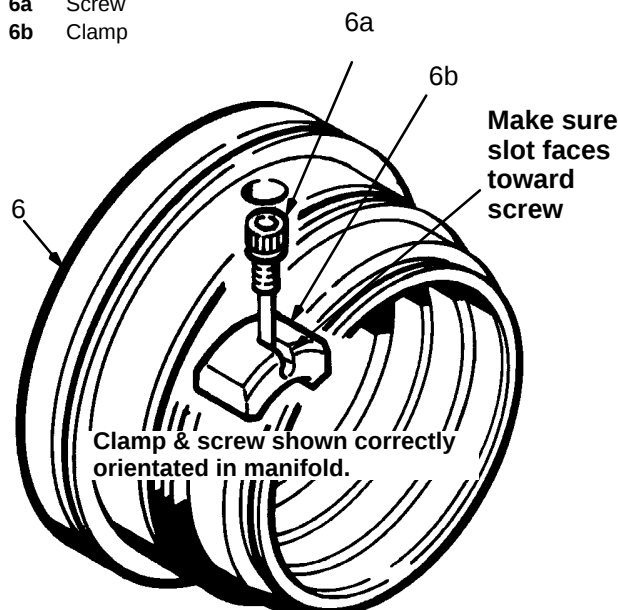

Fig 15
2. Be sure the three screws (6a) and clamps (6b) are in place in the manifold (6). See Fig 15.